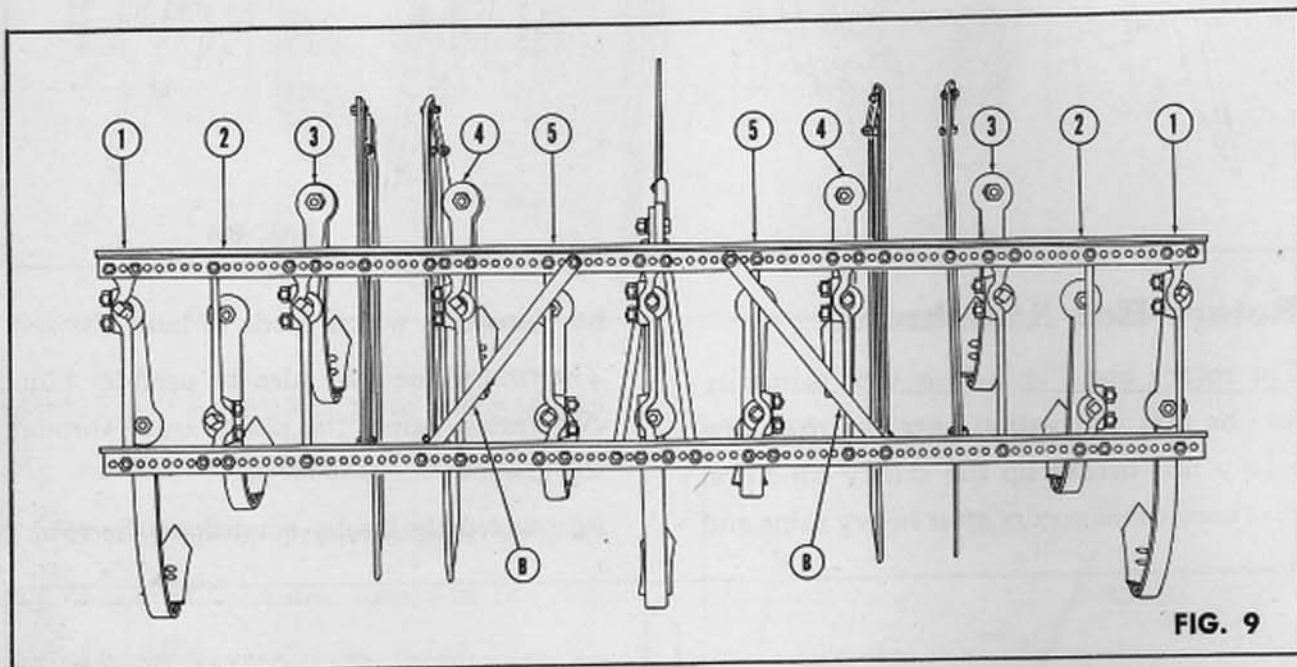

FIG. 9
*NOTE: For convenience of the reader, each illustration carries the same number as the page on which it appears. For example, Fig. 9 will appear on Page 9. Where two or more illustrations appear on the same page, a suffix is added to the illustration number for reference purposes.*
Adjust all shovels and tines to conform to the row spacing. They may be adjusted for two rows spaced from 36" to 42", four rows spaced from 16" to 20", two rows and three middles spaced 24" to 30", and for seven feet general field cultivation. Figs. 9 through 13 will illustrate the tine and shovel arrangement.
Figs. 2 and 3 illustrate the four positions of the spring tine and shovel to obtain the arrangements for different conditions as shown in Figs. 9 through 13.
The Ferguson SKO-20 Cultivator may be adjusted for a wide variety of uses by changing the position of the stem seats on the frame which has holes spaced 1" apart. The stem crank should not be used except for close adjustment. The diagonal struts (B), Fig. 9, must be securely tightened to
The proper shovel arrangement is obtained by setting the stem seats (shank holders) in the position shown by Figs. 9 through 13 and the accompanying charts. Additional adjustment is provided by turning the stem crank and resetting the tine at the clamp, Fig. 3.